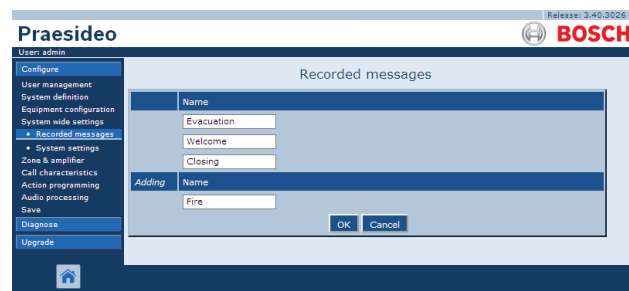

figure 44.4: Register message, step 3
- 3 Enter the name of the WAV file in the message set in the *Name* field (see figure 44.4 for an example).